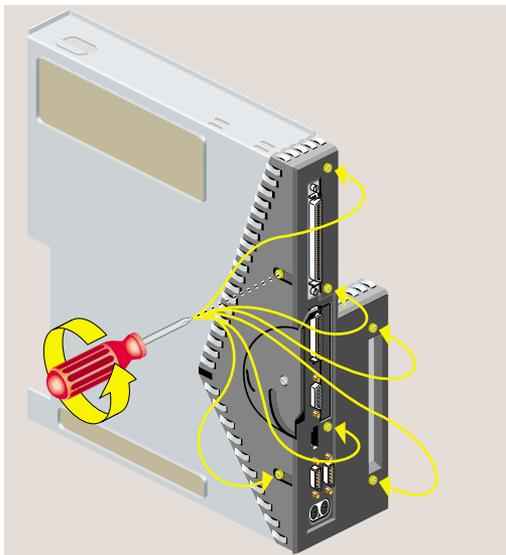

Figure 5-9 Removing Seven Screws From the Face Plate
- Use a Phillips screwdriver to remove five screws on the rear and two screws on the underside, in the locations shown (Figure 5-9). Keep the two screws from the underside separate. When reinstalling the faceplate you must use the same screws.